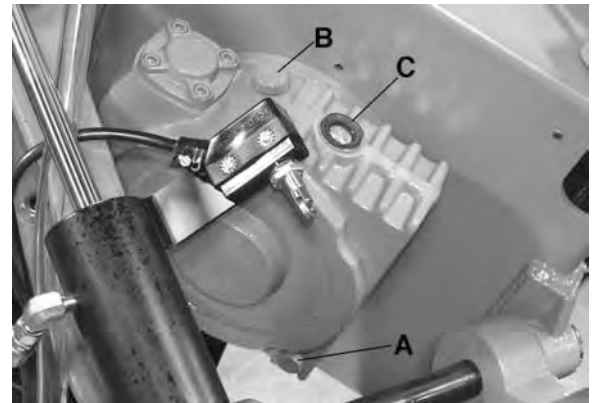

FIGURE 27
4. Drain the gear box by removing drain bolt (A) Fig.27.
5. Replace drain bolt (A) and lower the saw arm to its lowest position.
6. Remove oil cap (B) and fill the gear box with oil through the oil cap opening until the oil level reaches the halfway mark (red dot) in the oil sight glass (C) (approximately 500 ml). Reinstall the oil cap (B).